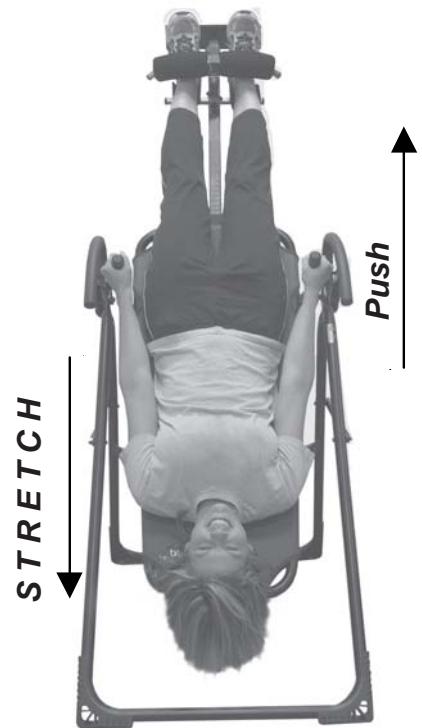

Figure 2
- Gently push against the handles and slowly straighten your arms. (See Figure 2) Take a deep breath and exhale, attempting to relax the muscles in your lower back. If while pushing you are unable to reach the maximum angle that you desire, you may want to shorten the Main Shaft an additional inch.